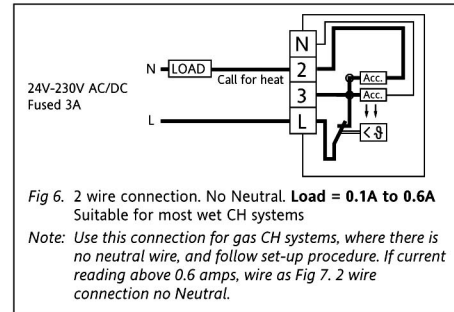

Fig 6. 2 wire connection. No Neutral. **Load = 0.1A to 0.6A**
## Set up to be followed when wiring to Fig 6 only
The thermostat utilises a series resistor as a heat anticipator when wired in accordance with Fig 6 diagram.
- If reading is **BELOW 0.6A** wire as Fig 6 (isolate electric supply before rewiring)